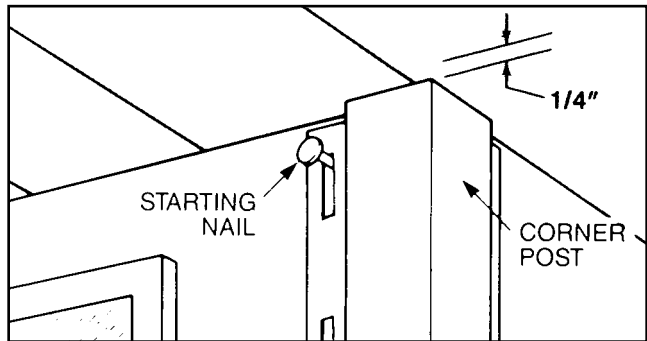

Fig 7.2
3. CORNER POSTS Measure down 1/4" from finished soffit at the top of the corner and install corner posts down to 2" below chalk line. Position a starting nail at the top of the first nailing slot (Fig. 7.2) and use a framing square and/or carpenter's level to keep the post at the correct angle while completing installation. Nail in the center of the remaining nailing slots spacing nails every 6" to 12". Be careful not to push, pull, jam, twist or in any other way distort the corner post as this will affect the performance and final appearance of the installation.